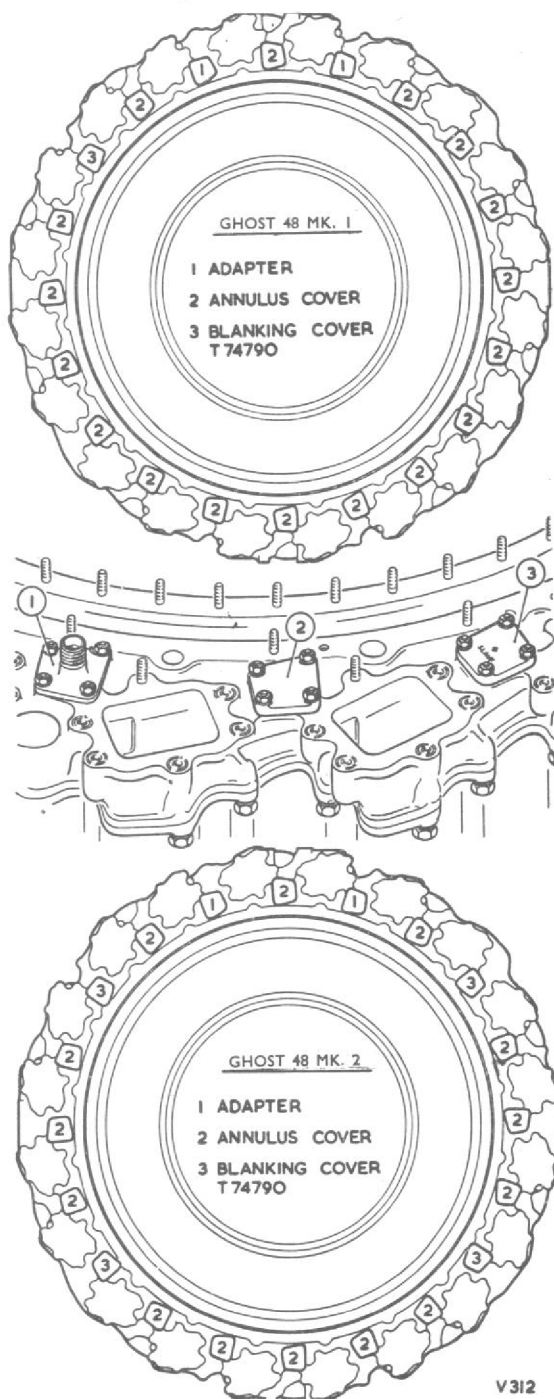

Fig. 2. Disposition of air annulus covers
- (9) Remove the four diffuser mounting bolts.
- (10) Assemble seventeen air annulus covers to the rear cover (48 Mk. 1) or fourteen on (48 Mk. 2), two adapter covers to both marks, and one slave blanking cover (48 Mk. 1) and four (48 Mk. 2). The disposition of the covers is shown in fig. 2.